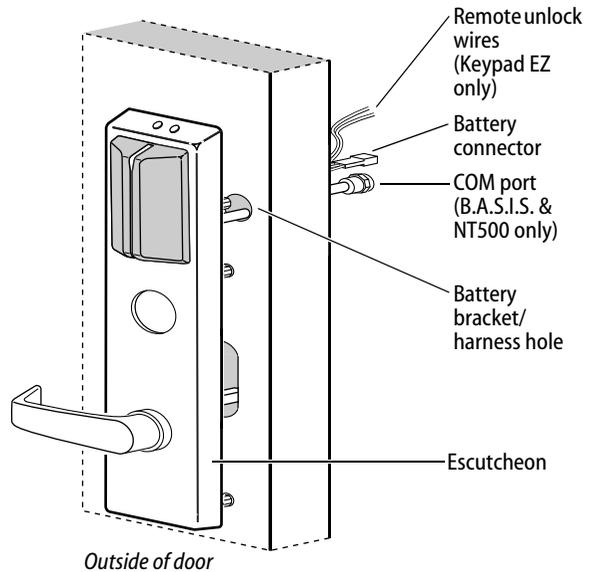

Figure 10 Feeding the wire harness connectors through the battery bracket/harness hole
- 1 From the outside of the door, feed the com port and battery connector through the battery bracket/harness hole as shown in Figure 10.